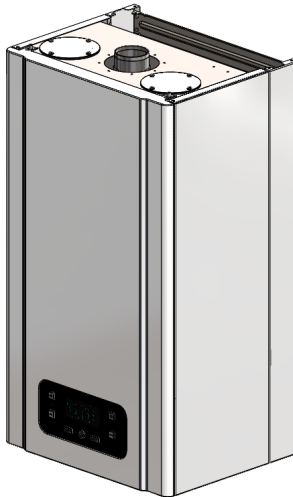

Figure 3
- If the device had been assembled inside a cabinet, the distances required for maintenance and repair should be at least as in Figure 3.